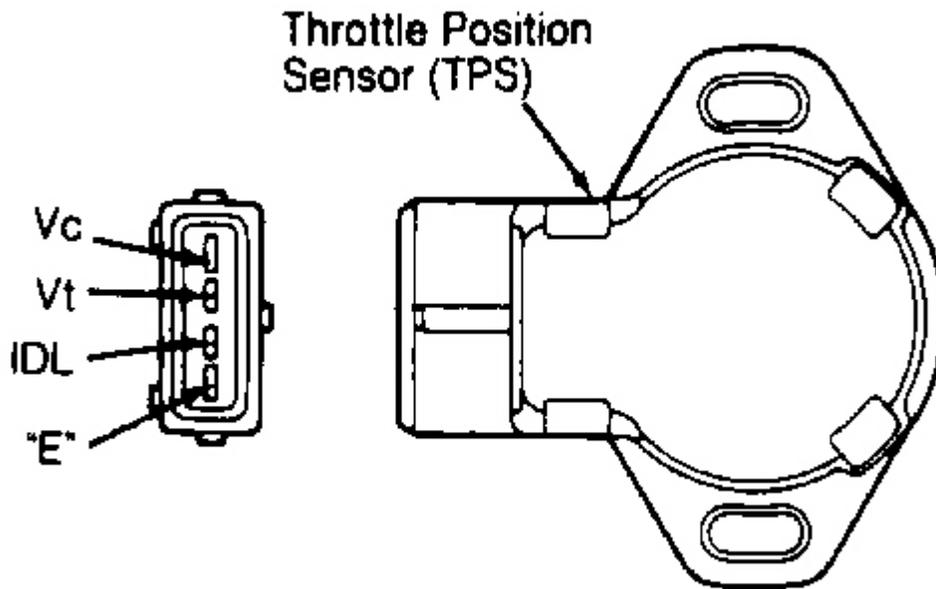

Fig. 3: TP Sensor Connector Terminal ID (A/T)
1. Disconnect TP sensor connector. Connect ohmmeter between TP sensor connector terminals "E" and IDL. See **Fig. 3** . Insert feeler gauge of specified thickness between throttle lever and throttle stop screw. See TP SENSOR CONTINUITY (A/T) table.
1. Disconnect TP sensor connector. Connect ohmmeter between TP sensor connector terminals "E" and IDL. See **Fig. 3** . Loosen TP sensor attaching screws.